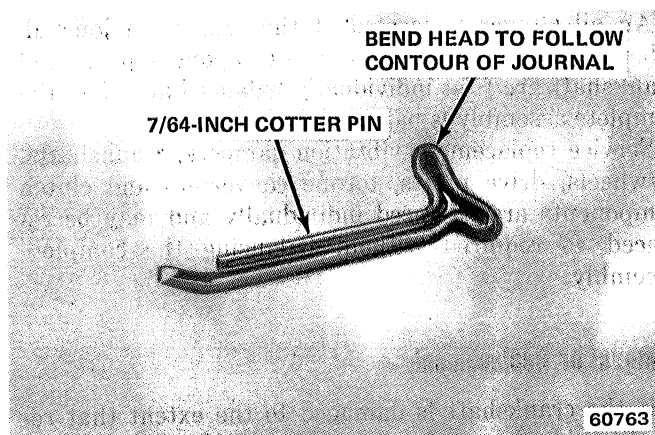

Fig. 1B-92 Fabricated Upper Main Bearing Removal Tool
- (1) Drain engine oil.
- (2) Remove oil pan.
- (3) Remove main bearing cap and insert.
- (4) Remove lower insert from bearing cap.
- (5) Loosen other bearing caps and insert small cotter pin in crankshaft oil hole. Fabricate cotter pin as illustrated in figure 1B-92.
- (6) With cotter pin in place, rotate crankshaft so that upper bearing insert rotates in direction of its locking tab.